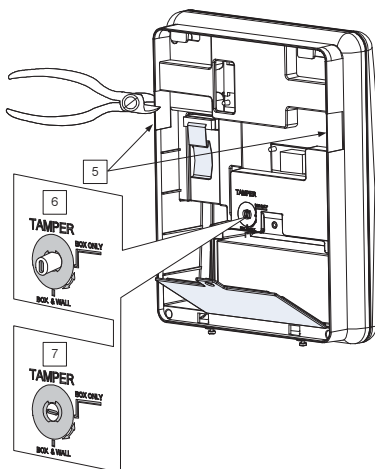

Figure 3: Wall Installation
5. Hold the mounting bracket against the wall as a template and mark the locations for the 5 mounting holes and an additional hole for securing the tamper protection bracket item (see Figure 3, detail 2), are available,).
7. According to the location of the wall cables, route and insert the wires and cables via the cable's openings (see Figure 3, detail 3) including AC cable and telephone cable. See the following sections on wiring/connection tasks.
8. Anchor cables with dedicated hooks (see Figure 3, detail 4).
- Box and Wall configuration (see Figure 3, detail 6) - Triggers the tamper when the box (control panel) or the wall mounting are tampered with.
- Box only configuration (see Figure 3, detail 7) – Triggers the tamper when the box (control panel) is tampered with.
2. According to the location of the network cable, route and insert the cable via the opening on the control panel (see Figure 3, page 22).